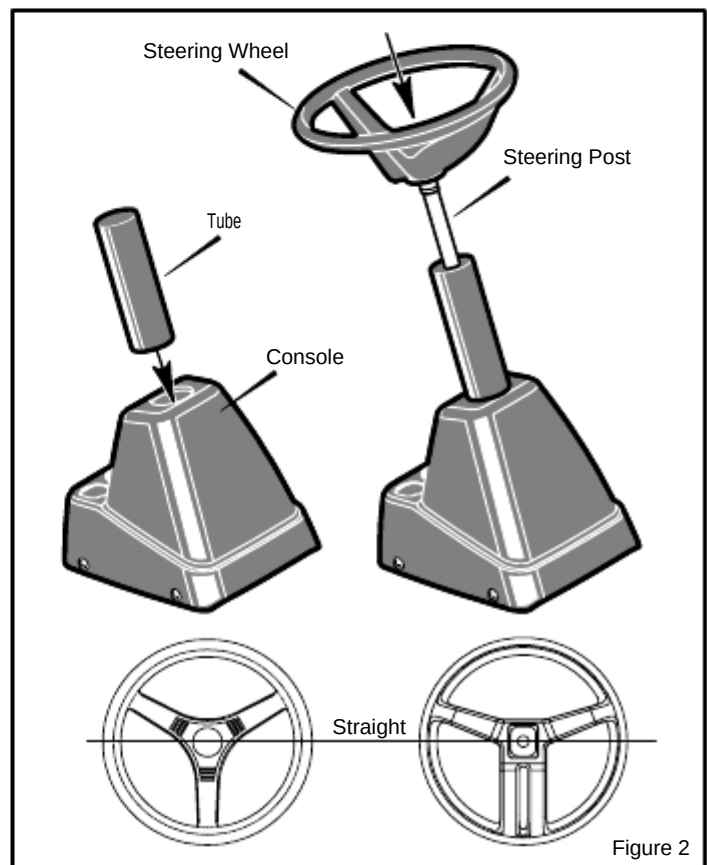

Figure 2
2. Slide the **tube** into the **console** (Figure 2). Make sure the end of the **tube** fits over the steering bushing.
NOTE: Before attaching the steering wheel, make sure that the front wheels point forward and are straight. The steering wheel will have either 3-spokes or 4-spokes. For proper alignment of the steering wheel, see Figure 2.